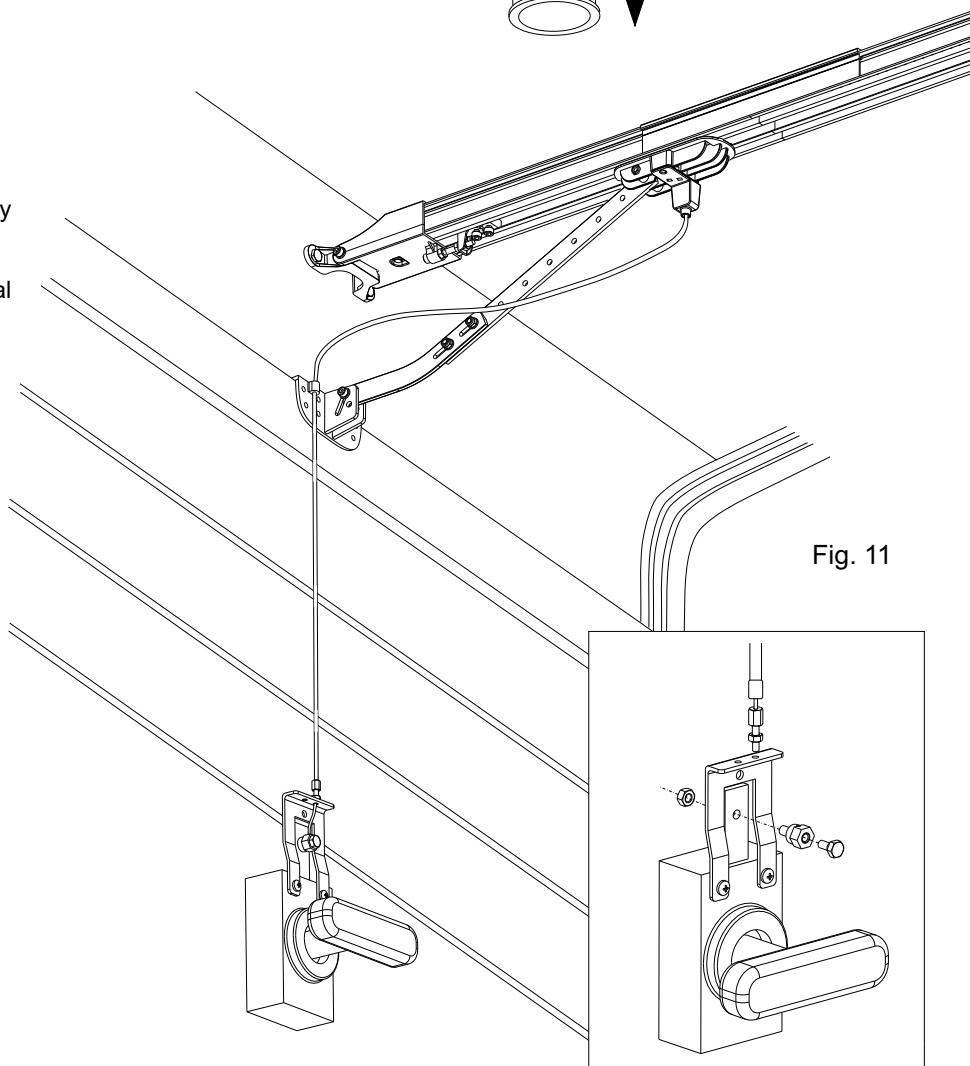

Fig. 11
- Turn the knob and open the door manually (Fig. 11)